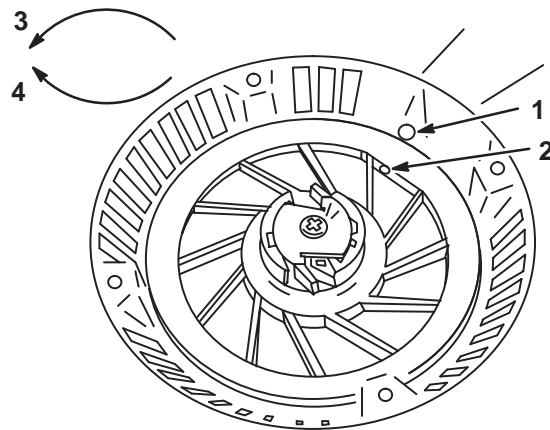

Fig. 80 – Winding Spring
1. Turn pulley counterclockwise until spring is wound tight, Fig. 80.
2. Then rotate pulley clockwise until rope hole in pulley is in line with starter housing eyelet and hold pulley, Fig. 80.